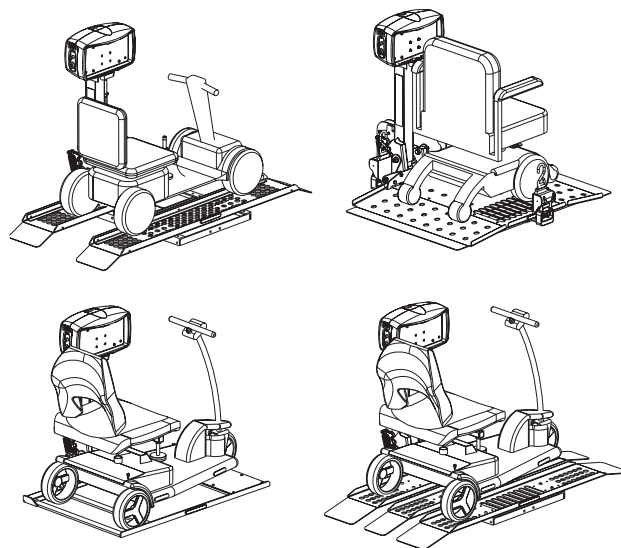

Figure 3-3
2. Stop positioning when the drive wheels fall between the wheel cradles or wheel chocks on the side or center, depending on the lift and chair model. *See Figure 3-3.*